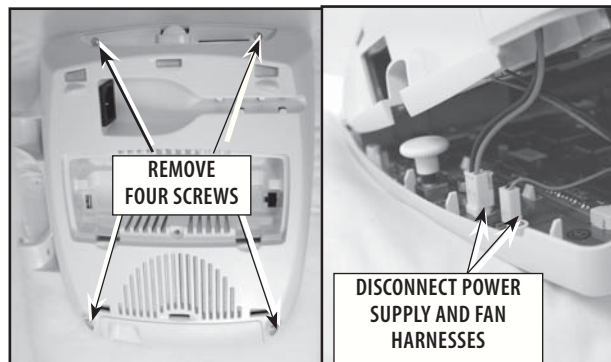

FIGURE 6.3
4. Remove the two front feet from the system to gain access to the two front screws. **Refer to Figure 6.3.**
5. Remove the four mounting screws from the bottom housing using the #1 Phillips screwdriver. **Refer to Figure 6.3.**
7. Disconnect the Power Supply and Fan Harnesses from the Control Board of the system. **Refer to Figure 6.3.**